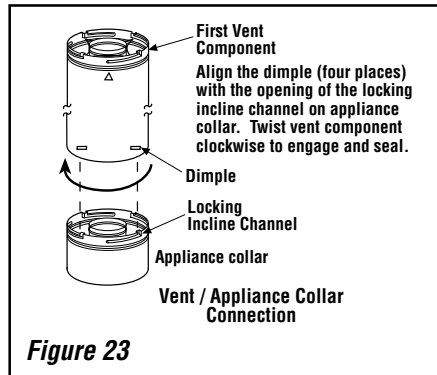

Figure 23
B. Attach vent components to appliance - **Secure Vent SV4.5** direct vent system components are unitized concentric pipe components featuring positive twist lock connections (see **Figure 23**). All of the appliances covered in this document are fitted with collars having locking inclined channels.
To attach a vent component to the appliance collar, align the dimpled end over the collar, adjusting the radial alignment until the four locking dimples are aligned with the inlet of the four inclined channels on the collar (refer to **Figure 23**). Push the vent component against the collar until it fully engages, then twist the component clockwise, running the dimples down and along the incline channels until they seat at the end of the channels. The unitized design of the **Secure Vent** components will engage and seal both the inner and outer pipe without the need for sealant or screws. If desired, a #6 x 1/2" screw may be used at the joint, but is not required as the pipe will securely lock when twisted.
Secure Vent SV4.5 direct vent system components are unitized concentric pipe components featuring positive twist lock connection, (refer to **Figure 23 on page 12**). All of the appliances covered in this document are fitted with collars having locking inclined channels. The dimpled end of the vent components fit over the appliance collar to create the positive twist lock connection.
D. Attach vent components to appliance - To attach a vent component to the appliance collar, align the dimpled end over the collar, adjusting the radial alignment until the four locking dimples are aligned with the inlets of the four incline channels on the collar (refer to **Figure 23 on page 12**).